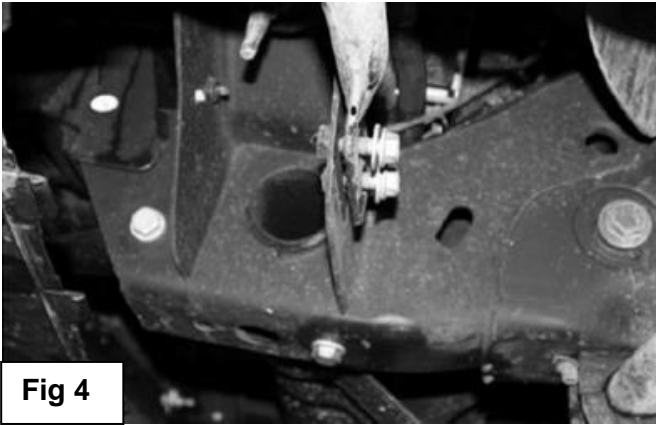

Fig 4
6. Remove bolts and swing outer bumper support tubes down and out of the way, using a 15mm socket. Two Bolts per side. (Fig 4).